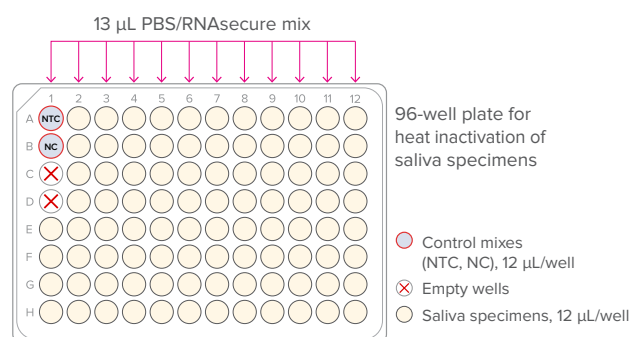

Figure 1. Heat-inactivation plate
□ 3 Add 12 μL of each saliva specimen to the remaining wells containing PBS/RNasecure mix, as shown in Figure 1.